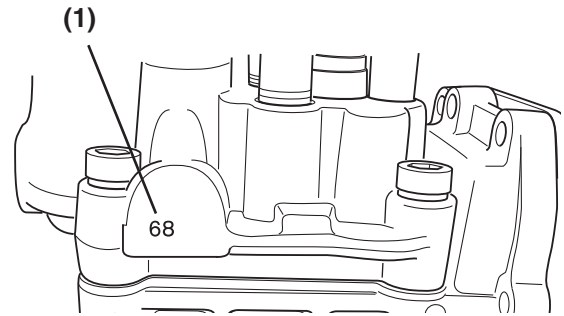

Figure 7-18
*If installing a new or recalibrated fuel injection pump, locate and record the timing index number located on the pump housing boss on the engine side of the new or recalibrated fuel injection pump (**Figure 7-18, (1)**). This number will be used to calculate and adjust the final fuel injection timing.*